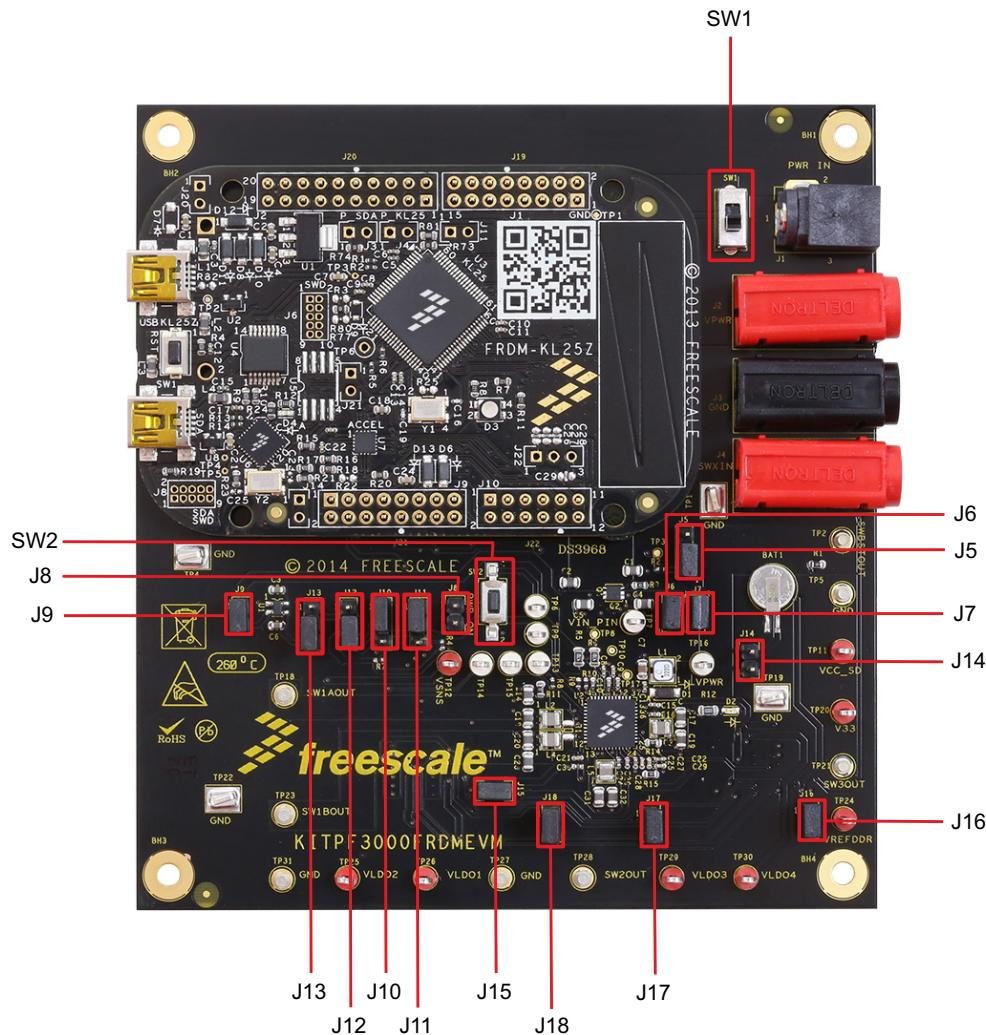

Figure 3. Jumper and Switch Locations⁽⁶⁾
The PF3000 device populated on KITPF3000FRDMEVM features the A1 OTP. See Figure 3.
Figure 3 shows the location of jumpers and switches on the KITPF3000FRDMEVM evaluation board. Table 4 describes the function and settings for each jumper and switch. (Default settings are shown in bold.)
6. Board displayed in Figure 3 is Revision A. Hence, some jumpers in later revisions do not appear in the illustration.